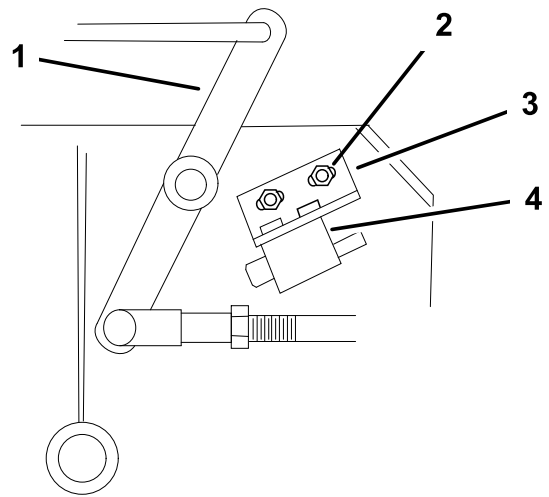

Figure 59
4. If needed, adjust the blade safety switch by loosening the bolts holding the switch bracket (Figure 59).
Note: Make sure the bellcrank **does not** touch the switch body or damage to the switch could occur (Figure 59).